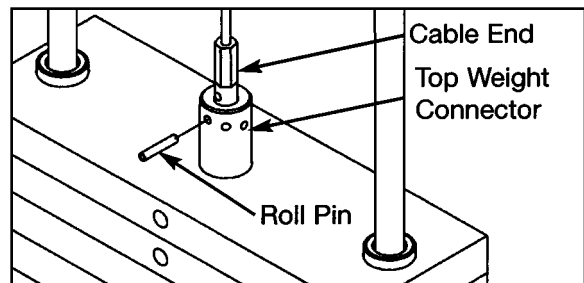

Figure 8
3. Roll Pin Adjustment - This type of adjustment utilizes a roll pin and series of holes in the weight stack top plate connector. See Figure 8.